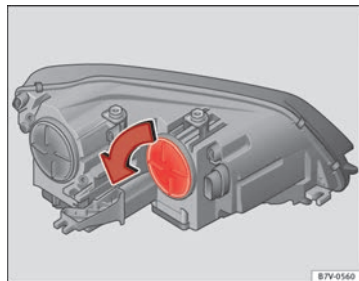

Fig. 208 In the engine compartment: Turn signal cover
3.	Rotate the cover ⇒ Fig. 208 in the direction of the arrow and remove it.
8.	Rotate the cover ⇒ Fig. 208 in the opposite direction to the arrow as far as it will go.